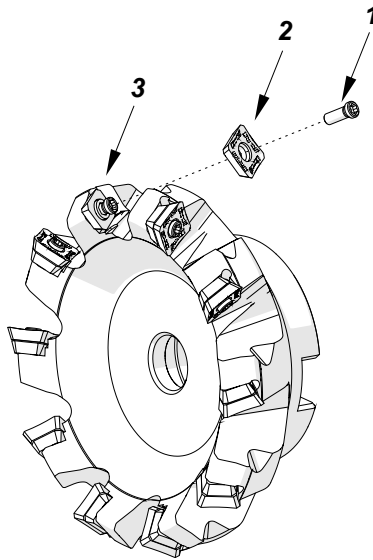

Fig. 14. Replacing the cutting inserts
Remove the milling head as described before and use the supplied screwdriver to remove the fixing screw (1, Fig. 14). Then, remove the cutting insert (2) and clean the shim (3). Turn the cutting insert by 90° and reinstall it or replace with a new insert if all four edges are worn. Press the cutting insert so that its bottom is in full contact with the shim, and then tighten with the fixing screw.